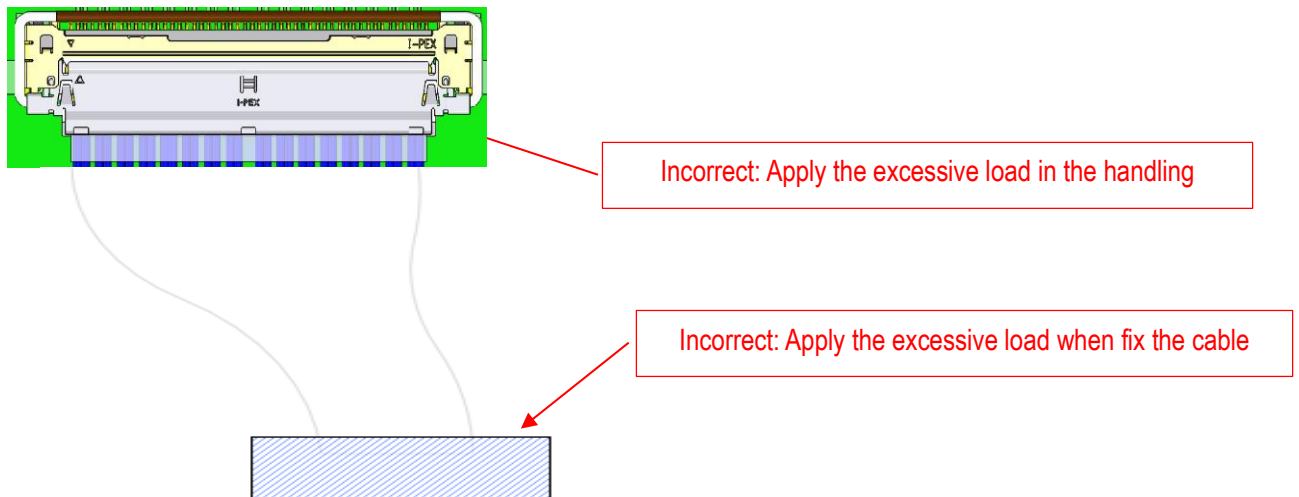

Fig. 17
3. Do not apply applying excessive load to the CABLE of Harness in the handling the CABLE as shown in Fig.17.